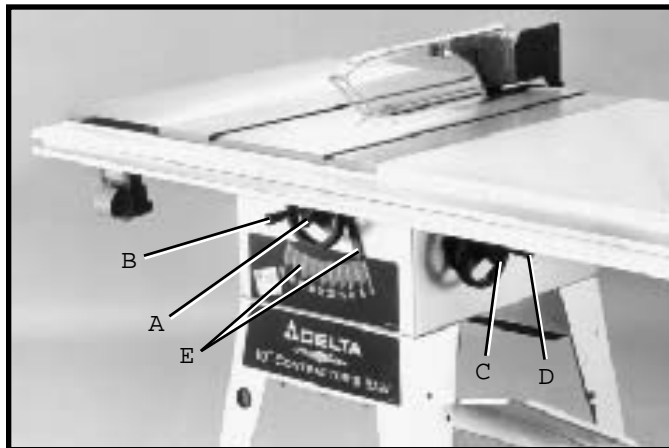

Fig. 80
To raise the saw blade, loosen lock knob (A) Fig. 80, and turn the blade raising handwheel (B) clockwise. When the blade is at the desired height, tighten lock knob (A).
To lower the blade, loosen lock knob (A) Fig. 80, and turn the handwheel (B) counterclockwise. NOTE: One full turn of the handwheel will change blade height approximately 1/4".
To tilt the saw blade for bevel cutting, loosen lock knob (C) Fig. 80, and turn the tilting handwheel (D). When the desired blade angle shown on scale and pointer (E) is obtained, tighten lock knob (C).